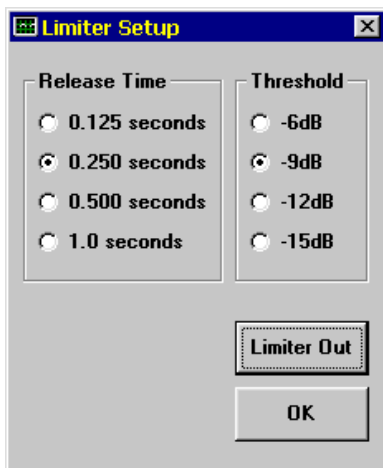

Figure 3-6 Tutorial Limiter Setup Window
12. Click on the **Limiter Setup** button in the Input Levels block. The following window (Figure 3-6) will appear:
13. Use the mouse to set the Release Time to 0.250 seconds and the Threshold to -9dB, as shown in Figure 3-6. Click on **OK** when done\*.